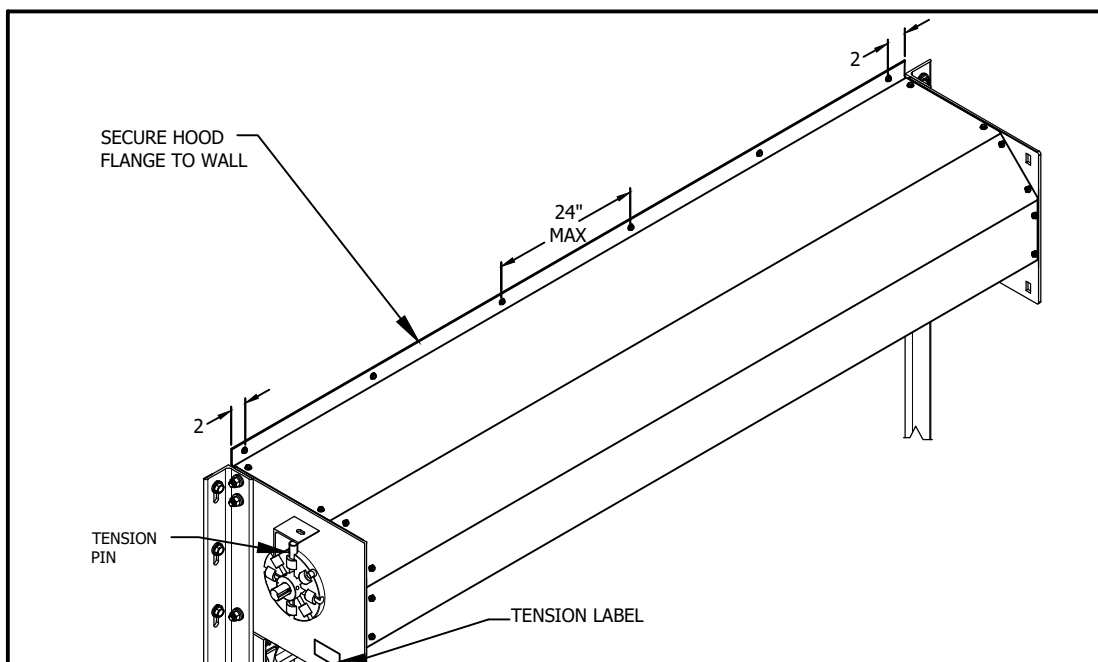

FIGURE 20
- e. Insert tension wheel pin as shown in Figure 20.
- b. Attach hood to headplate hood bands with self-drilling fasteners provided and approved by ASTA Door Corporation. Use two fasteners per flat hood surface as shown in Figure 20.